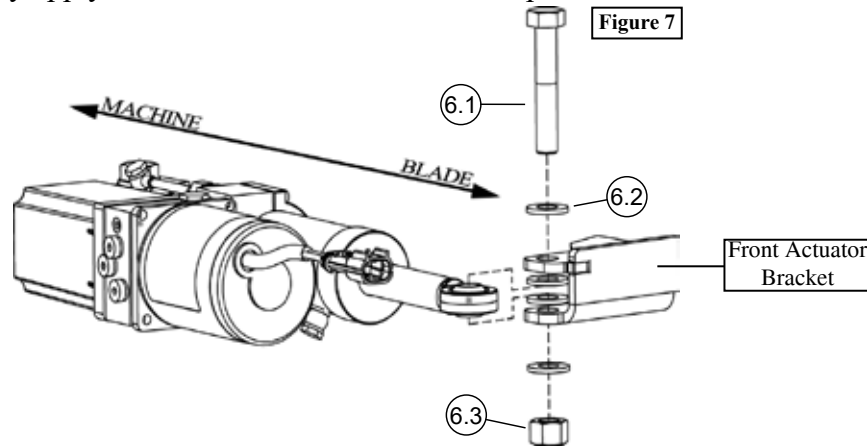
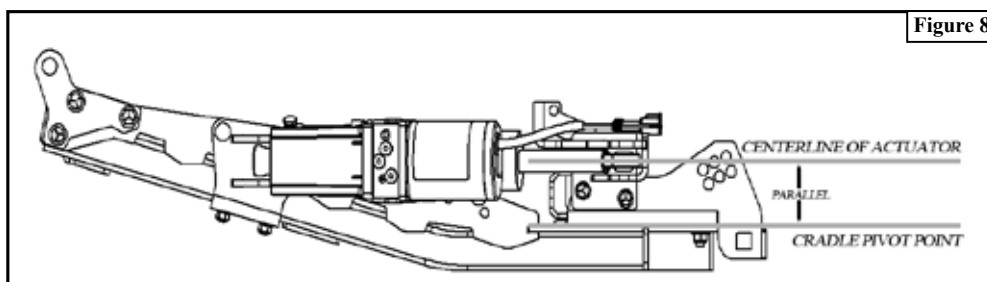

Figure 7
Figure 8
2. Repeat previous step for mounting the front half of the actuator, as shown in Figure 7. It is most important that you use the washers to make sure that the actuator is parallel to the cradle swivel point, as shown in Figure 8. Both front, and rear bolts should not be tight, thread the nut on until Nylock is engaged.